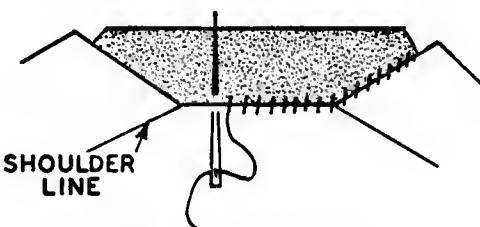

Fig. 70. Felling stitch.
- C. The stitches will be slanted on both the right and wrong sides (Fig. 70).